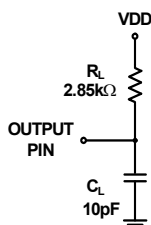

FIGURE 4. EQUIVALENT LOAD CIRCUIT
9. During characterization, t_{DISABLE} is measured from the release point with a 10pF load (see Figure 4) and the equivalent timing using the AD7452 loading (25pF) is calculated.